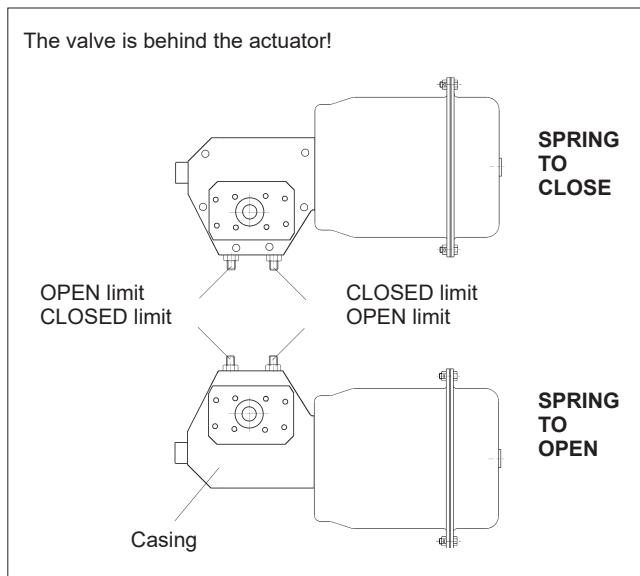

Fig. 42 Installation of a Quadra-Powr actuator and adjustment of the open and closed limits
**Adjust the valve open and closed positions by means of the screws at the side of the actuator; remember to tighten the locking nuts. See Fig. 42.**
Quadra-Powr actuators may be used for spring-to-close and spring-to-open operations depending on the installation position. After selecting the desired operation, see Fig. 42 for the correct installation position.